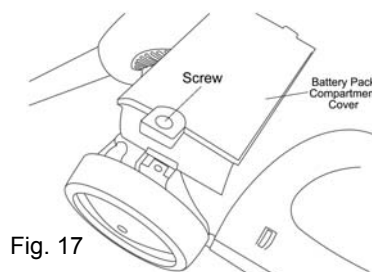

Fig. 17
2. Turn unit over so that the base is facing upwards. (Fig. 17)